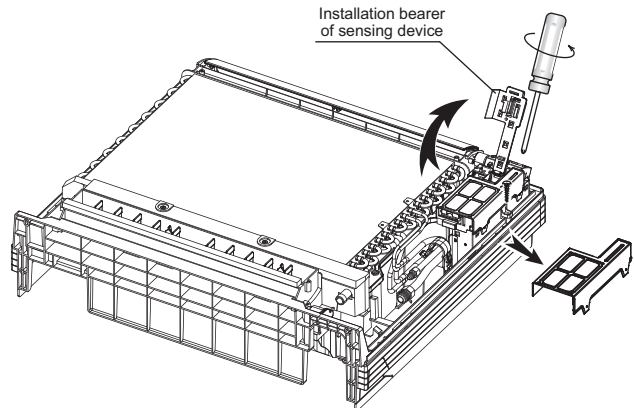

Fig. 15 – Remove installation bearer
1. Remove the installation bearer of the sensing device (see Fig. 15).